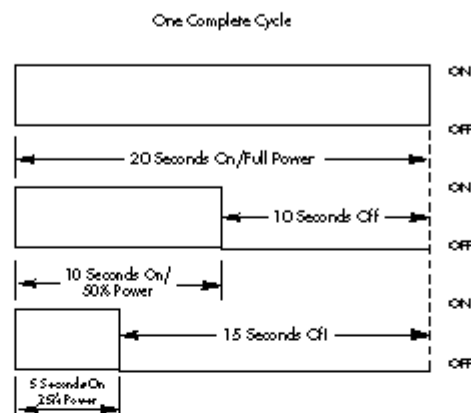

Figure 11.
3. Time proportioning: A clock produces pulses with a variable duty cycle. See **Figure 11**. Outputs are either direct- or reverse-acting. Direct-acting is used for cooling; reverse-acting for heating.